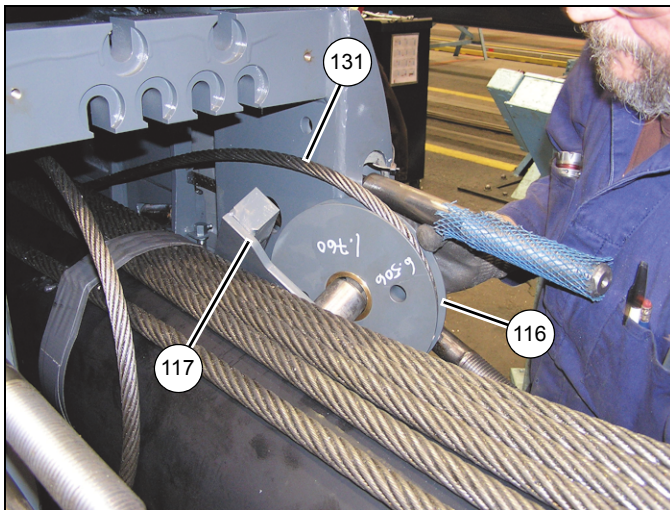

FIGURE 4-19
63. Remove the four bolts (119) and flat washers (118) securing the sheave mount weldment (117) to the inside of tele 3 (4), then remove the sheave mount weldment/sheave assembly (116/117) along with the three thrust washers (115) (left and right sides) (see Figure 4-19).